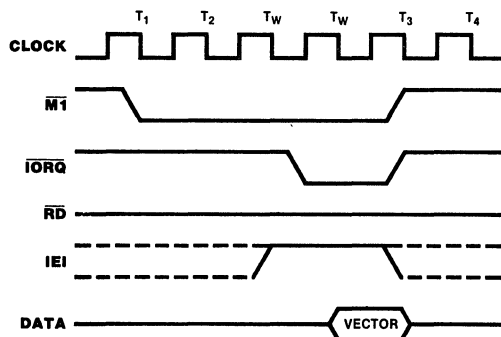

Figure 7. Interrupt Acknowledge Cycle
**Interrupt Acknowledge Cycle.** (Figure 7) After receiving an Interrupt Request signal (INT pulled Low), the Z80 CPU sends an Interrupt Acknowledge signal ( $\overline{M1}$  and  $\overline{IORQ}$  both Low). The daisy-chained interrupt circuits determine the highest priority interrupt requestor. The IEI of the highest priority peripheral is terminated High. For any peripheral